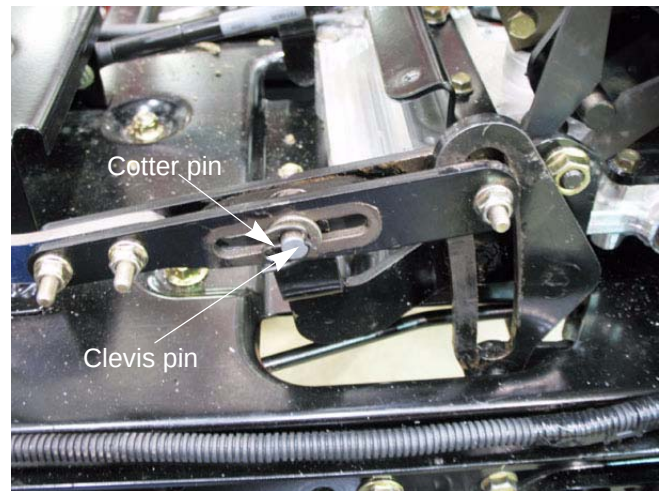

Figure 6.12
4. Remove the cotter pin and clevis pin. See Figure 6.12.